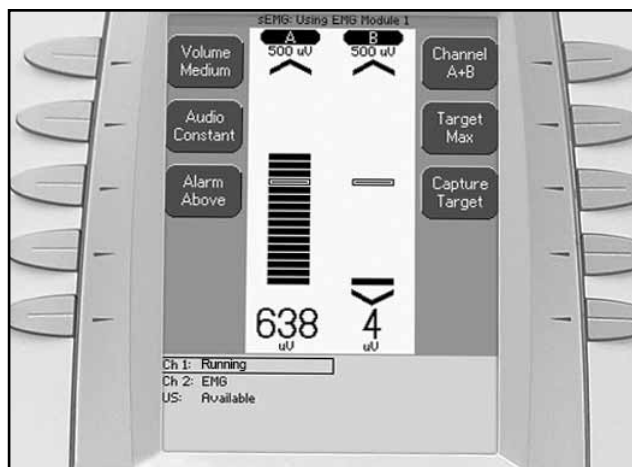

FIGURE 5.35
9. View the System sEMG Screen. Channel 1 should read between 604 and 738. See Figure 5.35.